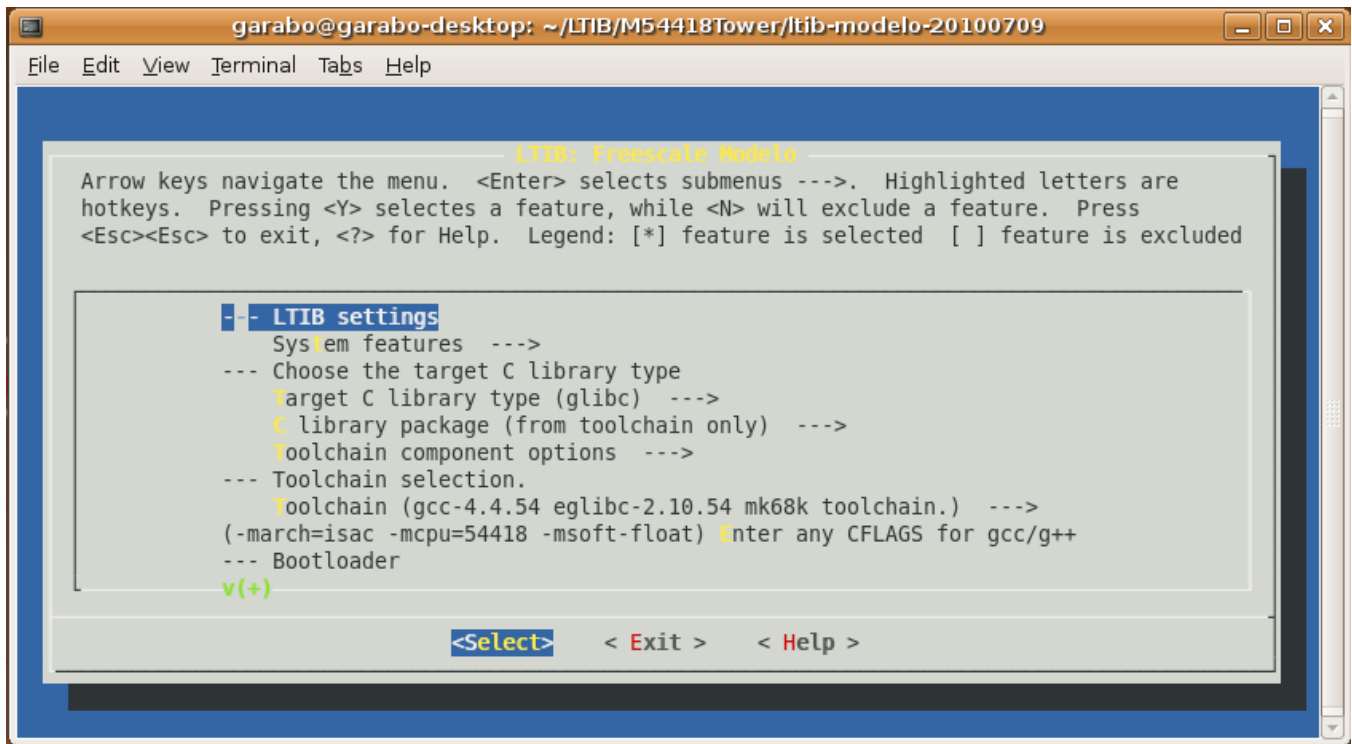

Figure 10. Board configuration
- When it executes the first time, LTIB runs a number of host packages that need to be built and installed in order to support LTIB. This may take a few minutes. Then run `./ltib -c` to modify the project configuration. This will prompt the platform/board configuration. In the board configuration screen, change settings and select packages as appropriate. When you exit the configuration screen, your target image will compile/build again to be adjusted accordingly. Figure 10 shows the board configuration screen.